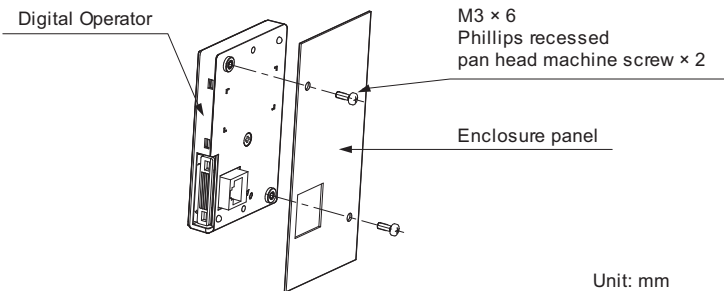

Figure 2.6 External/Face-Mount Installation
- 2. Position the digital operator so the display faces outwards, and mount it to the enclosure panel as shown in Figure 2.6.